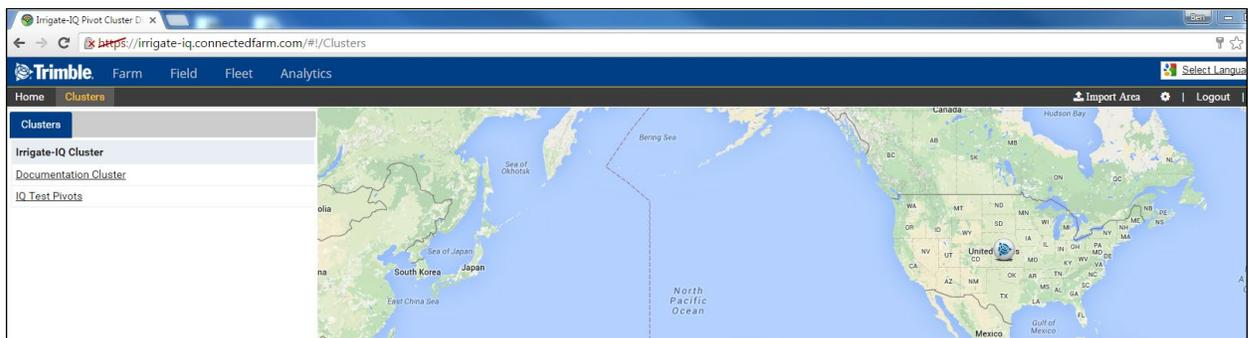

Figure 7-2 Clusters View
2. To navigate to the Farm Control view, refer to Figure 7-2 and do one of the following: